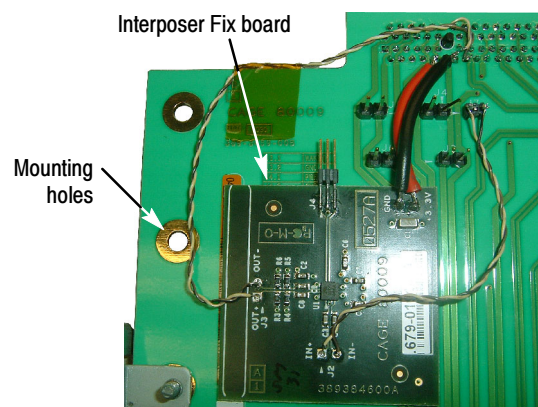

Figure 5: Correctly attached Interposer Fix board
3. Attach the Interposer Fix board to the Slot Adapter board. See Figure 5.
NOTE. Do not cover the mounting holes on the Slot Adapter board. See Figure 5.